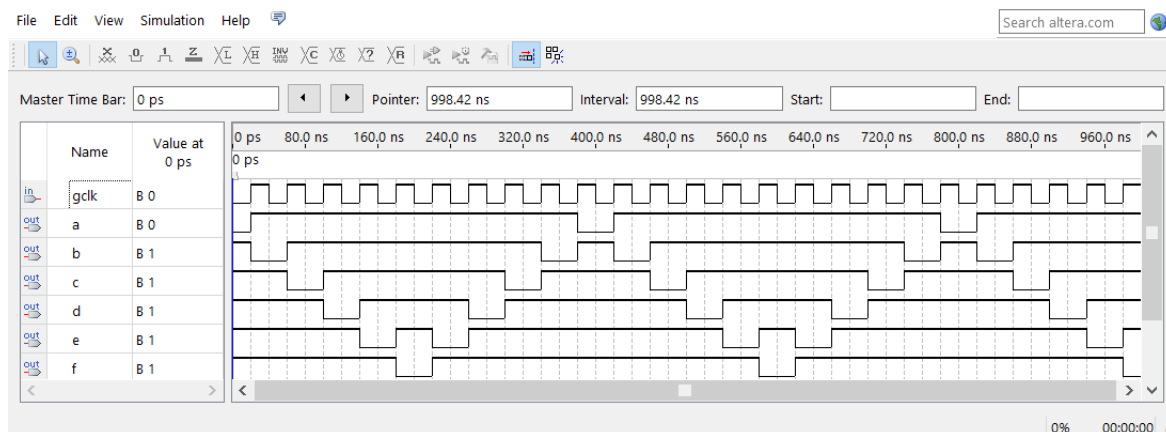

Figure 2.10: Simulation using clock period of 40 ns.
6. When the simulation waveform appears similar to Figure 2.10, you can add the prescaler and program the circuit.